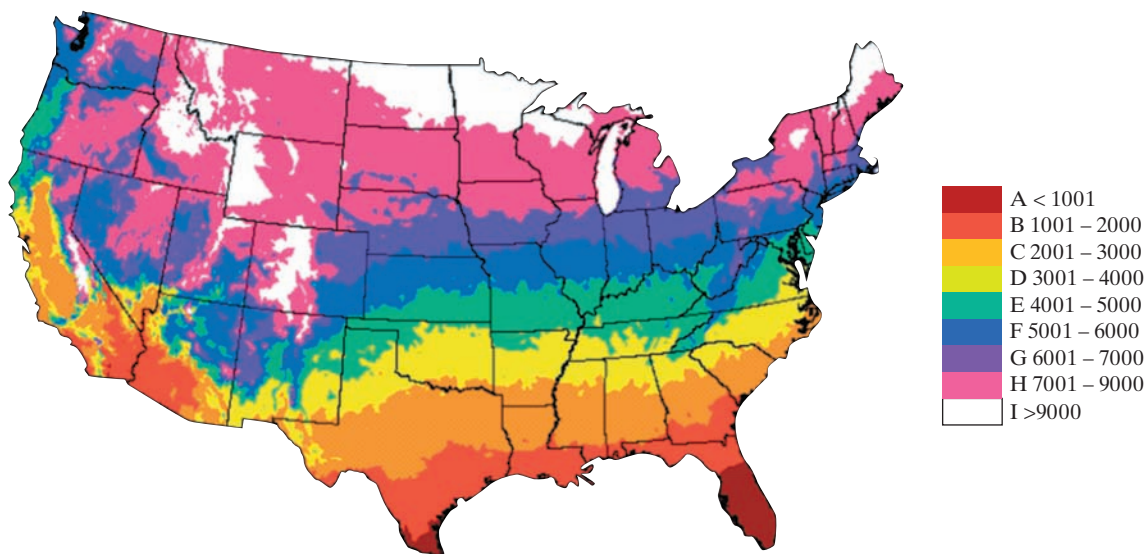

FIGURE 11.14
With the current energy and sustainability concerns, as future engineers, it is important for you to understand some of the simple *energy-estimation* procedures. For example, we use *degree days* to estimate monthly and annual energy consumptions to heat a building. A degree day (DD) is the difference between 18°C (typically) and the average temperature of the outside air during a 24-hour period. For example, for Mankato, MN, on an October day, the low temperature can be -3°C and the high temperature on that day can be 3°C. Then, the degree day for that October day for Mankato, MN, is: $DD = 18^{\circ}\text{C} - ((3^{\circ}\text{C} + -3^{\circ}\text{C})/2) = 18^{\circ}\text{C}$. Now, if we were to add up the degree days for each day in a month, we would get the total degree days for that month, and similarly, if we were to add up the degree days for each month, we would then obtain the annual degree days. In engineering practice, historical degree-day values (based on 30-year averages, see Figure 11.14) are used to estimate monthly and annual energy consumption rates to heat buildings from the following relationships: